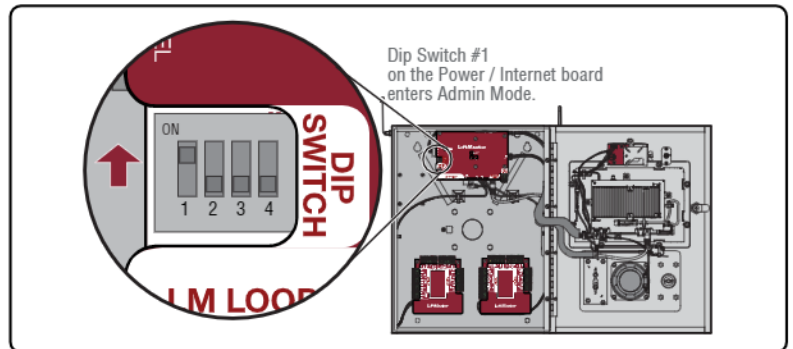

Figure 3. Admin Mode.
9. Enter CAPXL Admin Mode using the Dip Switch #1 on the Power/Internet board. Select the "Audio / Video" tab and confirm the video feed appears, and the angle and orientation are correct. (Figure 3)